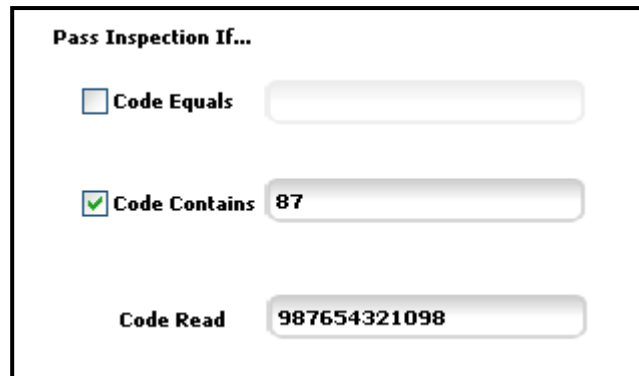

Figure 59. Set pass/fail conditions.
6. Configure “Pass Inspection If...” parameters [Figure 59].